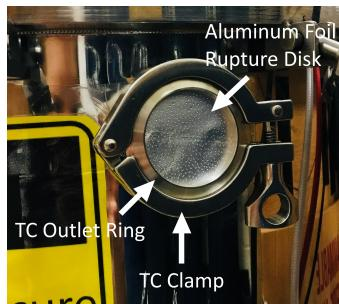

Figure 1: Ensure the rupture disk is present and intact
4. Ensure the vessel rupture disk is intact and positioned correctly (See Figure 1)